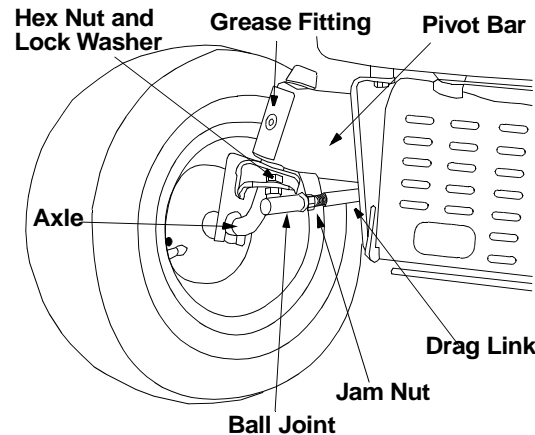

Figure 9
- Loosen the jam nut found on the drag link at the rear of the ball joint. See Figure 9 .
- Remove the hex nut and lock washer on the top of ball joint. See Figure 9 .
Each of the front wheel axles is equipped with a grease fitting (Figure 9). Lubricate with a grease gun after every 25 hours of tractor operation.